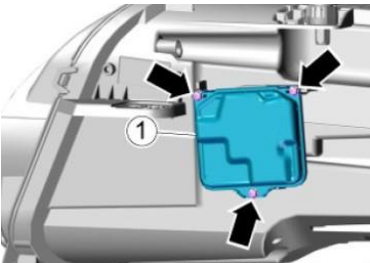

Figure 8
- Referring to Figure 8 - Using an external torx socket - Remove the three fixings (1.5 Nm) - Carefully extract the side control unit (1)